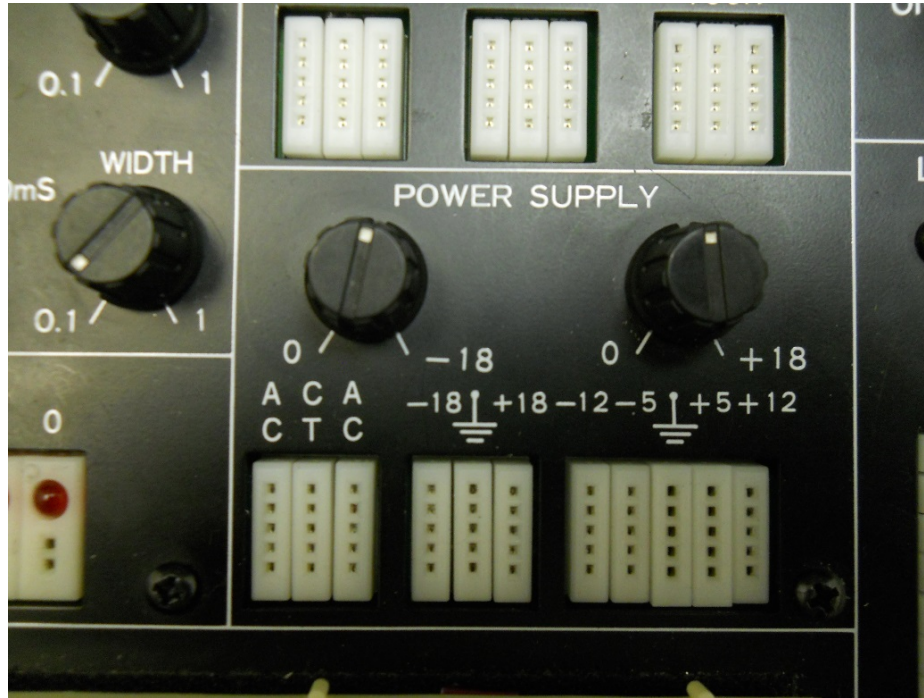

Figure 2 – Power Supply Section
2. Measurement of Power Supply Voltages. Figure 2 below shows the power supply section of the logic trainer. All measurements should be recorded to a tenth of a volt.
- 3.1. Looking to the center of figure 2. Three parallel banks of 5 connections each are present. These are marked -18, ground (symbol), and +18. These connections are for the **VARIABLE** positive and negative power supplies provided in the logic trainer. The two knobs above these points are used to adjust the magnitude of these voltages, and the adjustments are independent of one another. Remove one of the ground wires from the **FIXED** power supply ground point on the trainer (keep it connected to your DMM) and insert it into the ground point on this supply. Remove the other wire from the -12 point and connect it to the +18 point on this supply and to the positive lead of your DMM. Turn the right knob (marked 0 +18) completely counter-clockwise. Turn on the logic trainer and measure the output voltage. It may be very close to 0V.